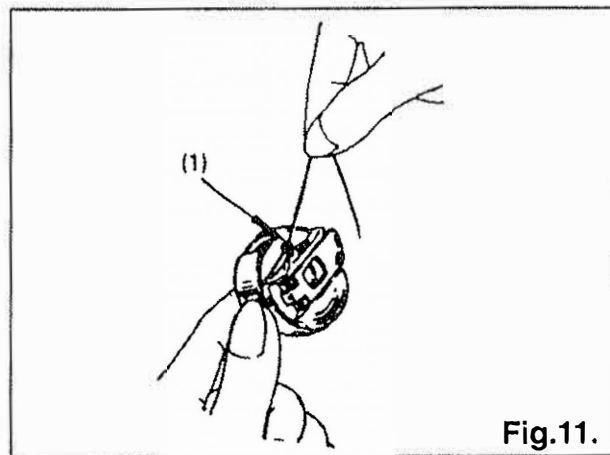
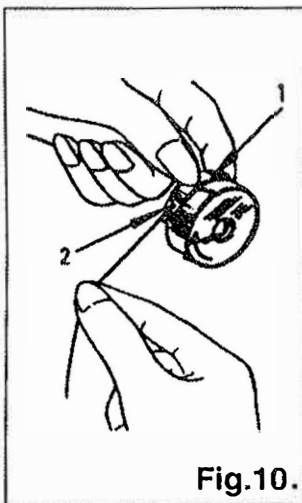

Fig. 11.
Fig. 10.
3. Draw thread out from slot (2) on end of spring (1), (Fig. 10) and pass it through bobbin case thread guide (1), Fig. 11. Allow about 4 inches of thread to hang freely from bobbin.
NOTE: When straight stitching, a better result can be obtained if bobbin thread is not threaded through bobbin case thread guide (1), Fig. 11.